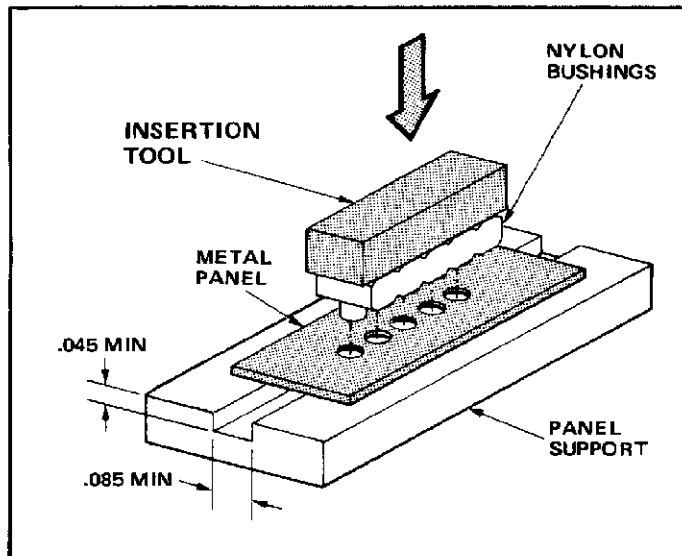

FIGURE 3
1. Place the metal panel on a suitable support in the press, as indicated in Figure 3.